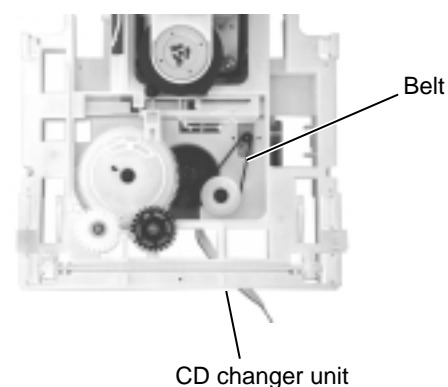

Fig.9
■ Removing the belt, the CD board and the switch board (See Fig.9 and 10)